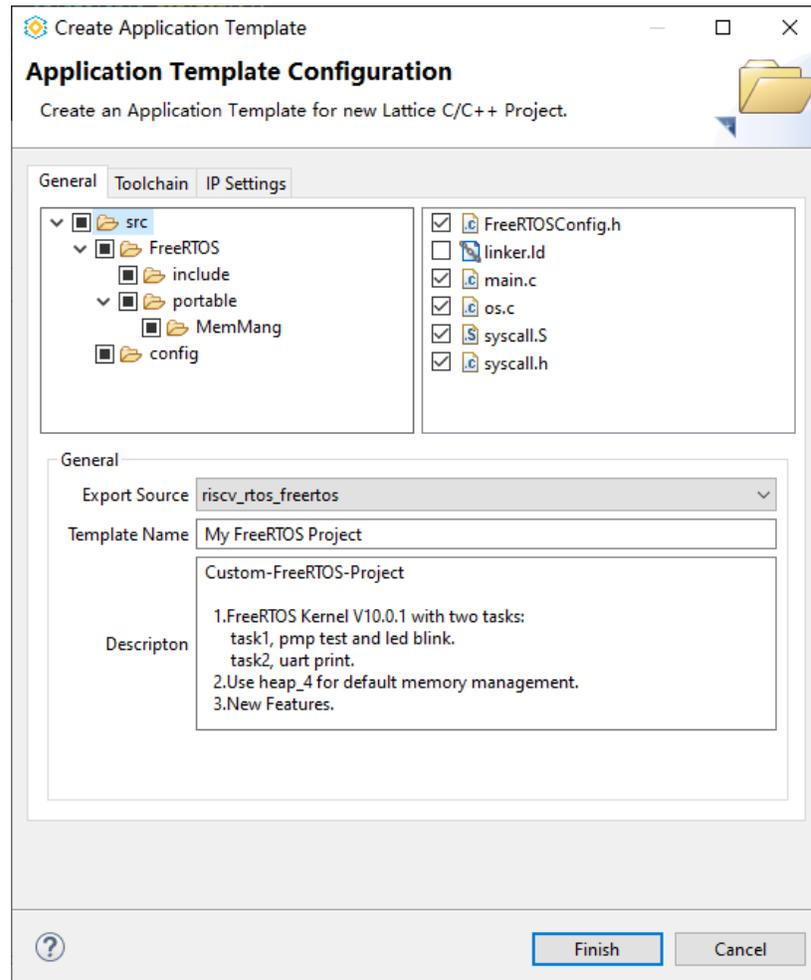

Figure 3.7. Create Application Template
**Create Lattice Application Template** wizard page (Figure 3.7).